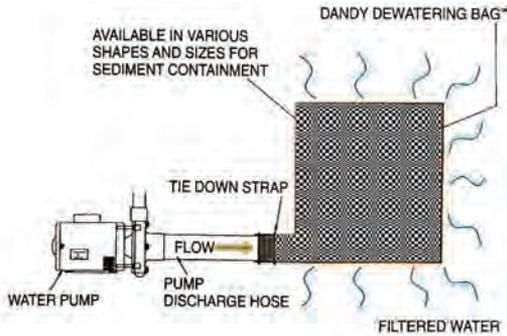

Figure 3.10. Example schematic of Dandy Dewatering Bag™. Bags should be placed on stabilized area or within a proper containment area.
**Bag Filters** are square or rectangular bags made of non-woven geotextile fabric that trap sand, silt, and fines inside the bag as water flows through the fabric (Figure 3.10). Bags come in many sizes.